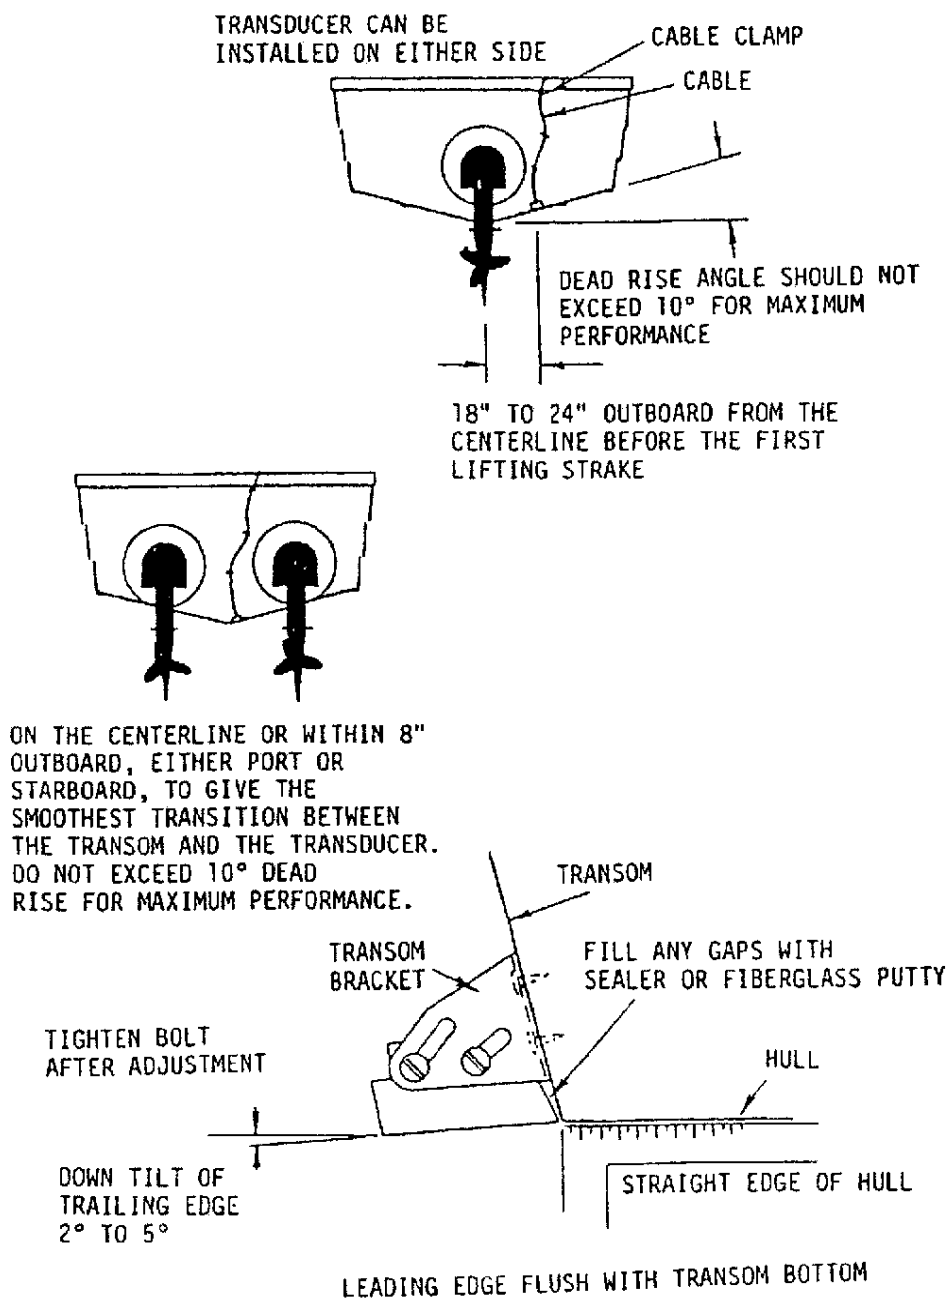

Figure 9. Transducer Mounting Locations
4. Position transducer as shown in Figure 9 and tighten nuts and screws.